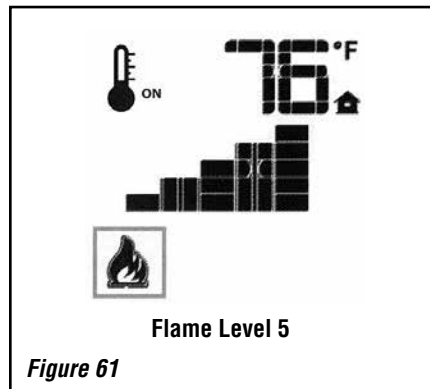

Figure 61
The system has six (6) flame levels. See **Figure 61 (next page)** for an example. With the system on, and the flame level at the maximum in the appliance, pressing the DOWN Arrow Key once will reduce the flame height by one step until the flame is turned off.